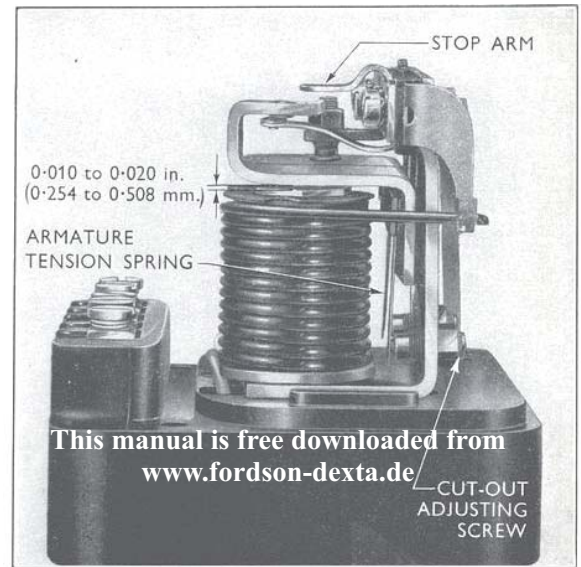

Fig. 10
Examine the cut-out points and, if necessary, clean with a suitable cleaning fluid or carborundum paper. Ensure that the points are meeting correctly (see Figs. 10 and 11).
0.508 mm.) feeler blade between the outer end of the armature and core face, and set the fixed contact, by bending the arm, so that the points are **just** touching (see Fig. 10).